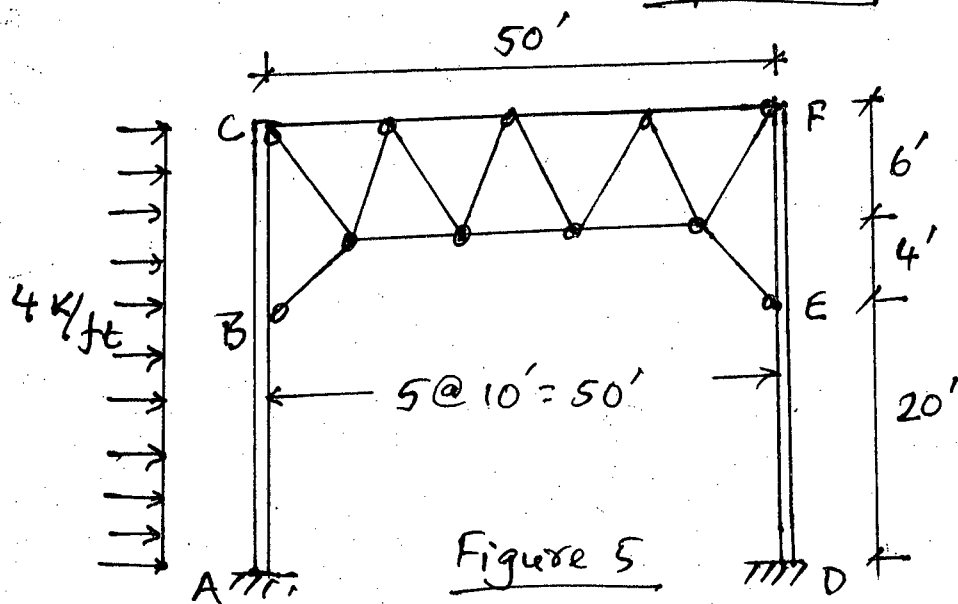

Figure 5
- (b) Draw the axial force, shear force and bending moment diagrams of the column ABC of the millbent as shown in Figure 5. (16 $\frac{2}{3}$ )